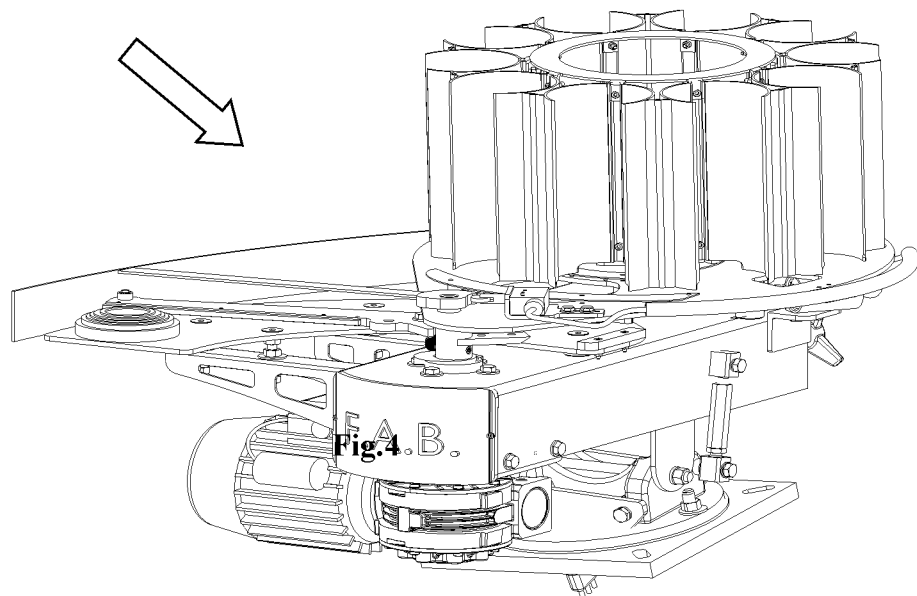

Fig. 4
2. To apply and verify the security measures as seen in fig. 4 ;